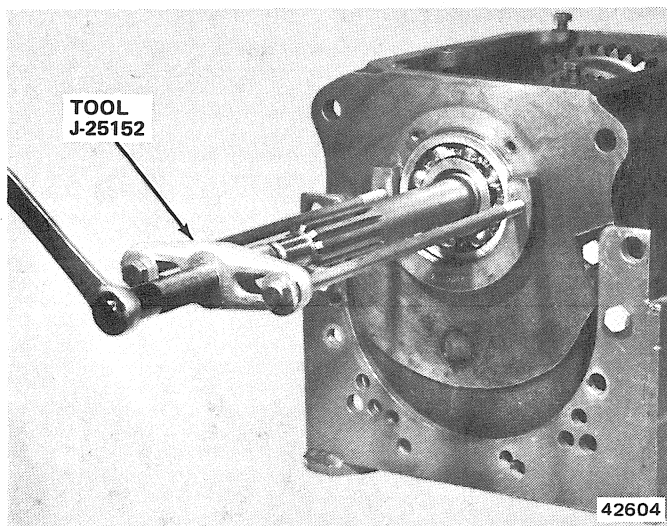

Fig. 2B-43 Front Bearing Removal
(3) Position first-second clutch hub on top of third-fourth hub so lock ball holes in first-second hub are in uppermost position (fig. 2B-44).
(4) Align scribe marks on first-second hub and sleeve and install sleeve on hub (fig. 2B-45). Allow sleeve to bottom against work bench.
(5) Install each shifting plate, poppet spring and lock ball assembly one at a time as follows (fig. 2B-45):